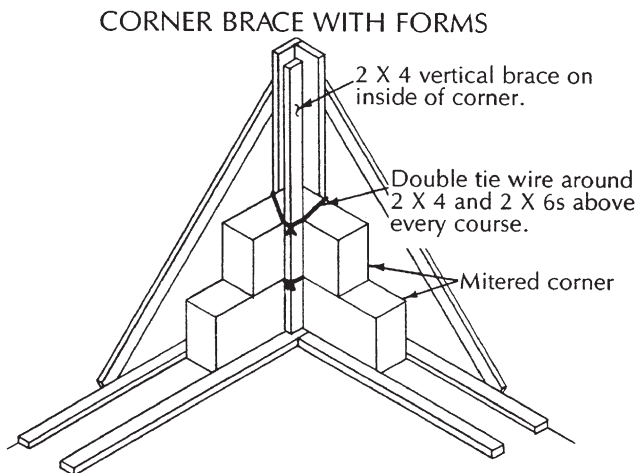

Fig. 21-19 Corner bracing technique for insulated concrete forms. (American Polysteel Forms.)
4. Vertical bracing should be tied to the perimeter bracing at 6-foot intervals. Corners should be braced on each intersecting edge with additional diagonal bracing spaced at 4-foot intervals. Figure 21-19 shows a typical corner bracing diagram. As forms are stacked, vertical bracing can be screwed into the metal or plastic ties built or inserted into the foam blocks.